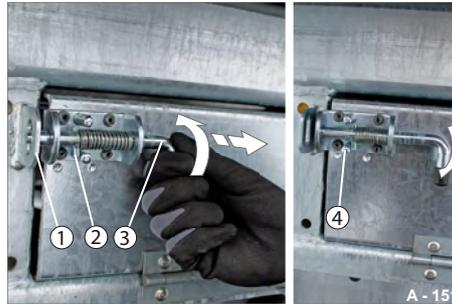
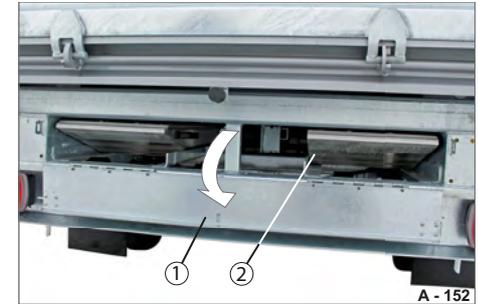

Fig. 161 Ramp plank bay, opening
Fig. 162 Ramp plank bay, OPEN
- Turn and pull out the pin (Fig. 161/3).
- Turn the pin downwards until the stick (Fig. 161/2) engages behind the retaining bolt (Fig. 161/4).
- Swing the flap (Fig. 162/1) of the ramp plank bay down.
- Grab the handle (Fig. 162/1) and pull both ramp planks (Fig. 161/2) out a bit.